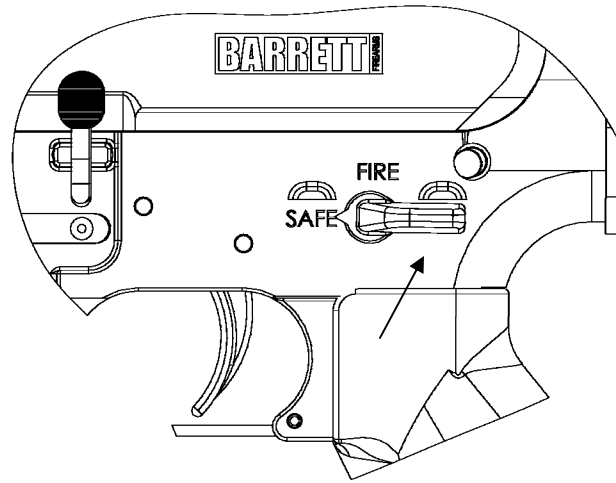

Figure 5.
3. Place safety selector switch to SAFE position until ready to operate. (Figure 5).